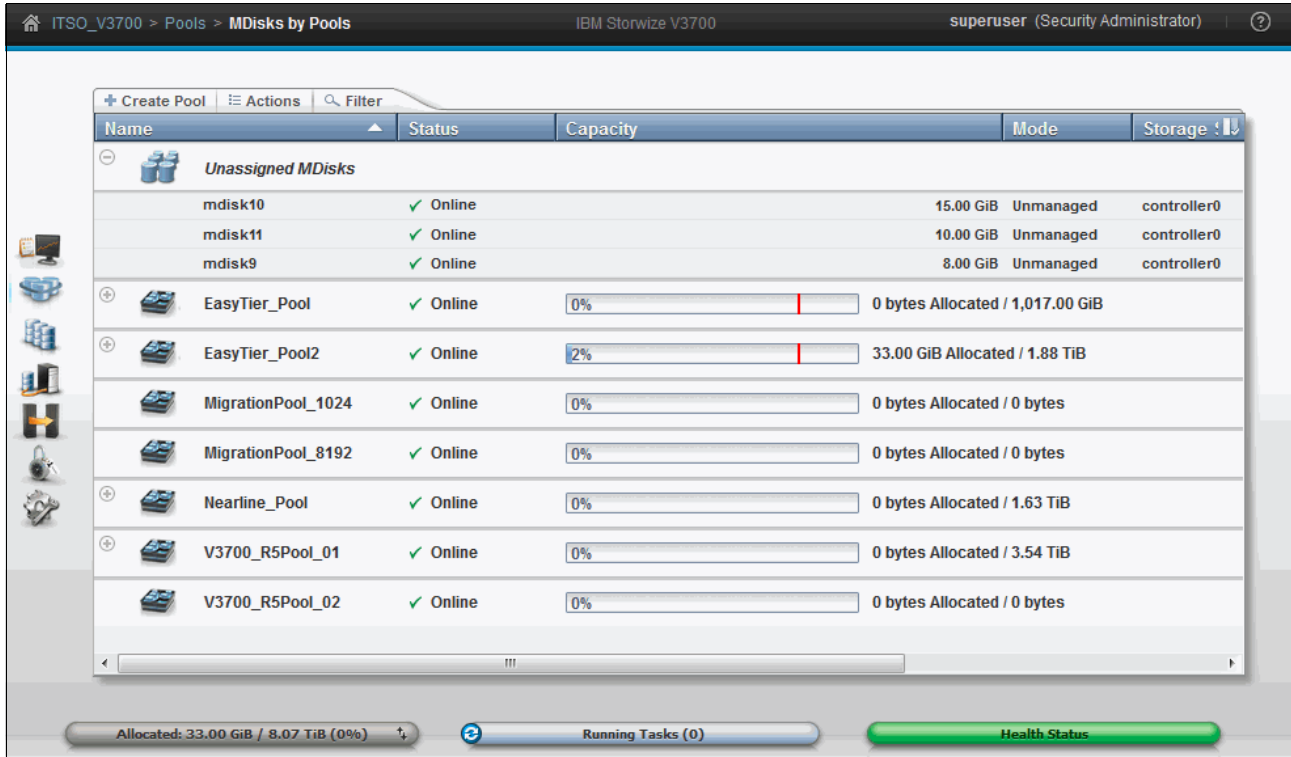

Figure 6-66 Unmanaged external MDisks
5. The status of those image mode MDisks is now Unmanaged, as shown in the MDisks by Pools view shown in Figure 6-66.